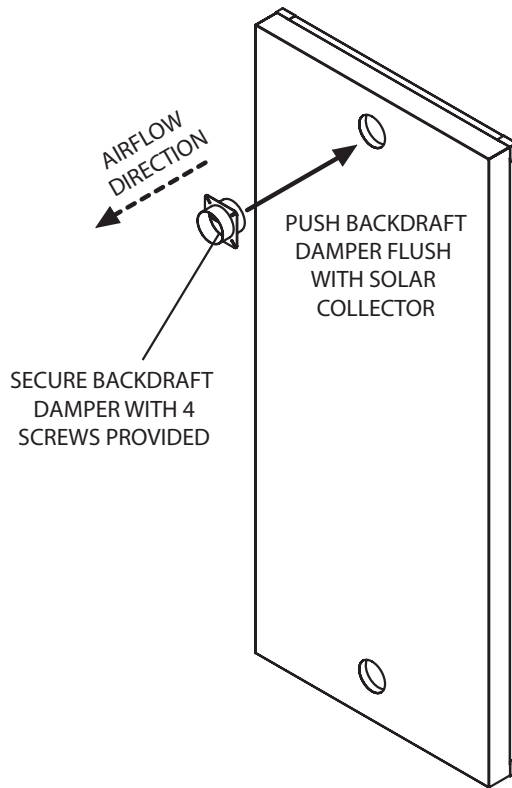

Figure 5. Installing the backdraft damper on the outlet of the solar collector.
- a. Place the backdraft damper on the outlet hole of the collector and secure with 4 screws as shown in Figure 5.